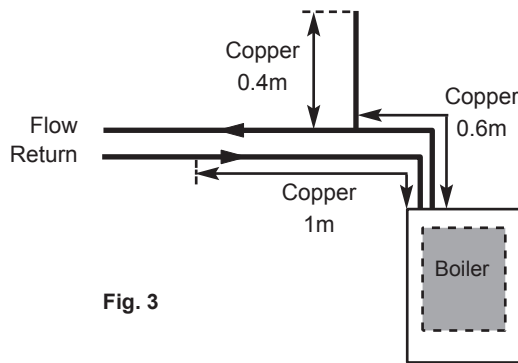

Fig. 3
3. In systems using non-metallic pipework it is necessary to use copper pipe for the boiler Flow and Return. The copper must extend at least 1 metre from the boiler and include any branches (Fig. 3).